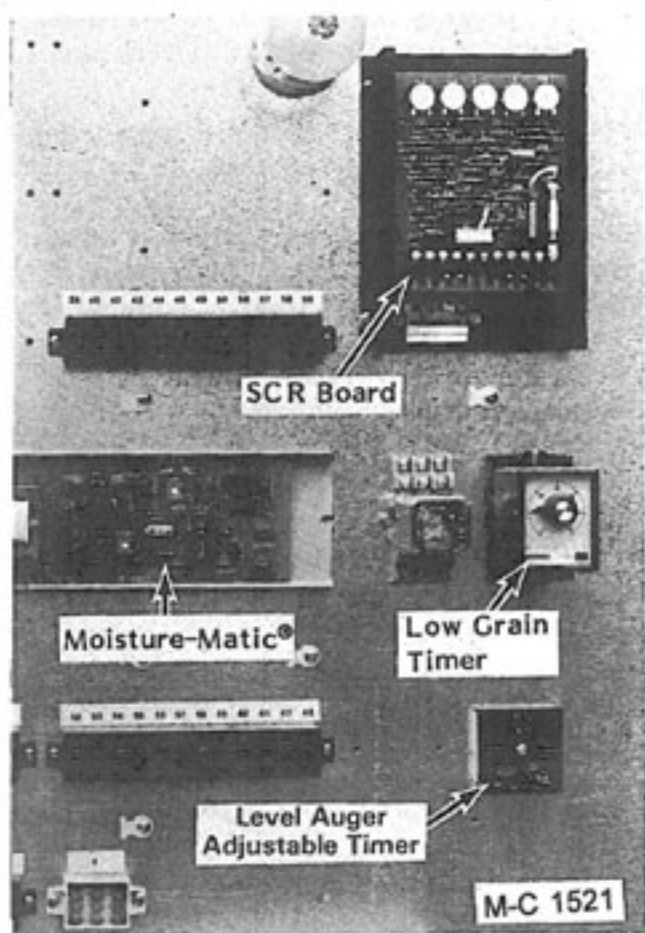

Figure 23
There is an adjustable .1 to 8 minute delay in the level auger circuit, see Figure 23. It is activated when the level auger switch is in the AUTOMATIC position and the level auger light is calling for grain.
The Grain Flow timer, Figure 23, will shut the dryer down if there is an insufficient grain supply to fill the hopper. When the level auger starts, the Grain Flow Timer will be activated. When the timer counts down to zero, the dryer will shut down and the Grain Flow light will come on.
1. Set the adjustable level auger delay, Figure 23, for time desired (.1 to 8 minutes).
2. Flip the level auger switch to the AUTOMATIC position. Turn the timer control knob, Figure 23, to 30 minutes. The level auger will start after the .1 to 8 minute delay if the level auger light is on calling for grain.
4. Average the 6 refill times and reset the Grain Flow Timer, Figure 23, to run 5 minutes longer. For example, if it takes an average of 5 minutes to refill the dryer, set the Grain Flow Timer to run 10 minutes.